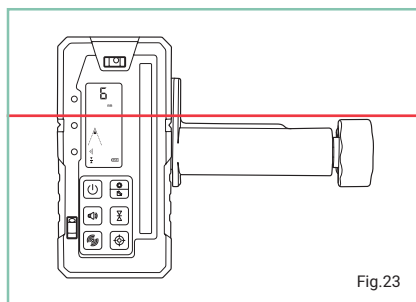
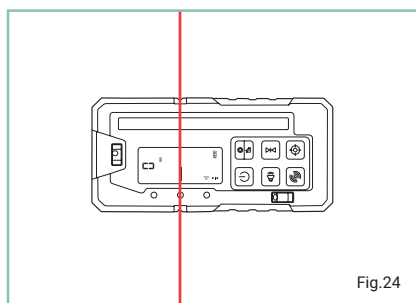

Fig.23
Fig.24
- Move the detector into the path of the beam. Hold the detector upright for horizontal beams (Fig.23) or rotate 90° for vertical beams (Fig.24).